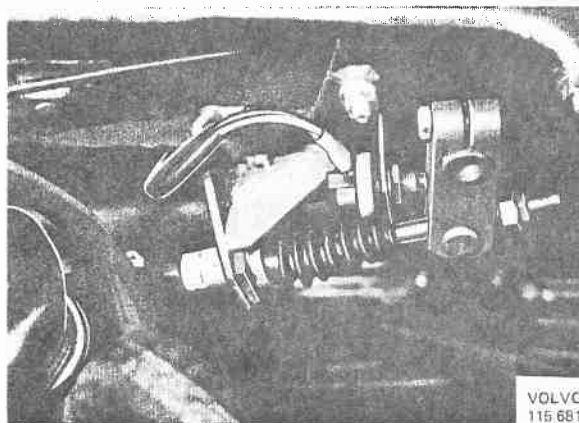

Fig. 38-23. Contact for parking brake
2. Disconnect the cable and remove the nut holding the contact, see Fig. 38-23, to the bracket.